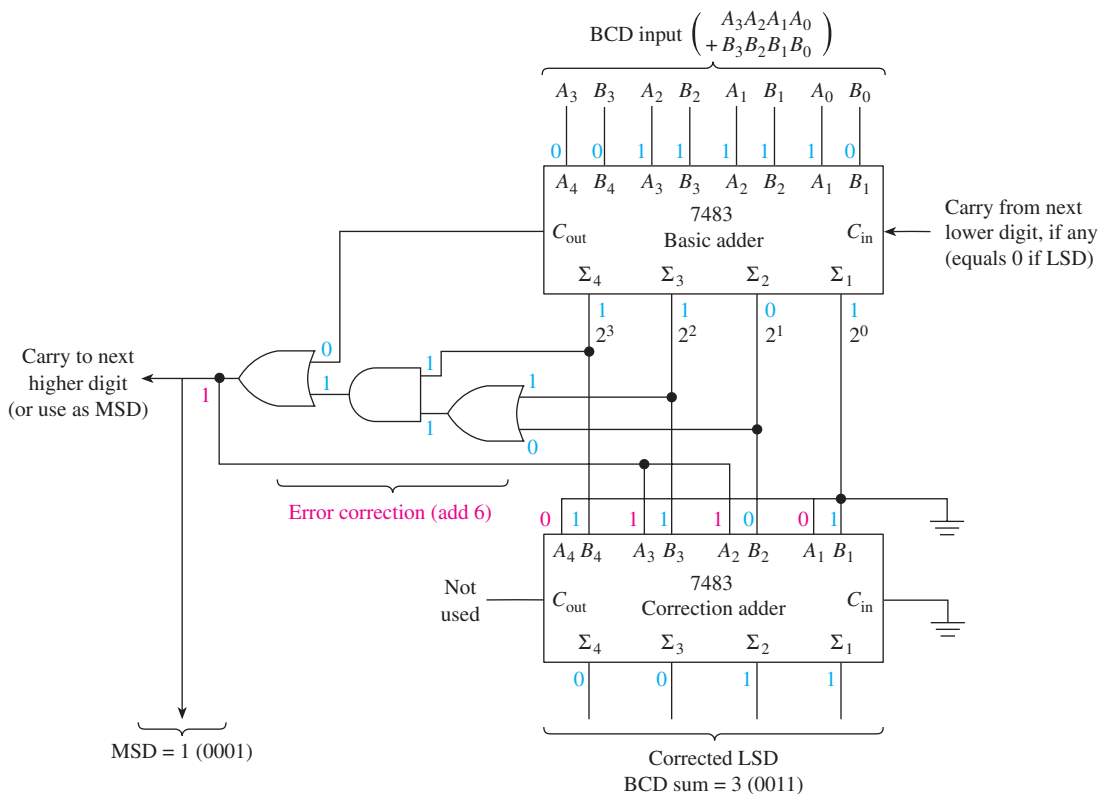

Figure 25 BCD adder illustrating the addition $7 + 6 = 13$ ($0111 + 0110 = 0001\ 0011$ BCD).
Checking for a sum greater than 9, or a carry-out, can be done easily using logic gates. Then, when an invalid sum occurs, it can be corrected by adding 6 (0110) via the connections shown in Figure 25. The upper 7483 performs a basic 4-bit addition. If its sum is greater than 9, the Σ_4 (2^3) output *and* either the Σ_3 or Σ_2 (2^2 or 2^1) output will be HIGH. A sum greater than 9 or a carry-out will produce a HIGH-HIGH at the A_3 and A_2 inputs of the correction adder, which has the effect of adding a 6 to the original addition. If there is no carry and the original sum is not greater than 9, the correction adder adds 0000.
Prove that the BCD addition $0111 + 0110$ ($7 + 6$) produces the correct answer at the outputs by labeling the input and output lines on Figure 25.
Familiarize yourself with the operation of Figure 25 by testing the addition of several other BCD numbers.
- 21. What is the purpose of the AND and OR gates in the BCD adder circuit of Figure 25?